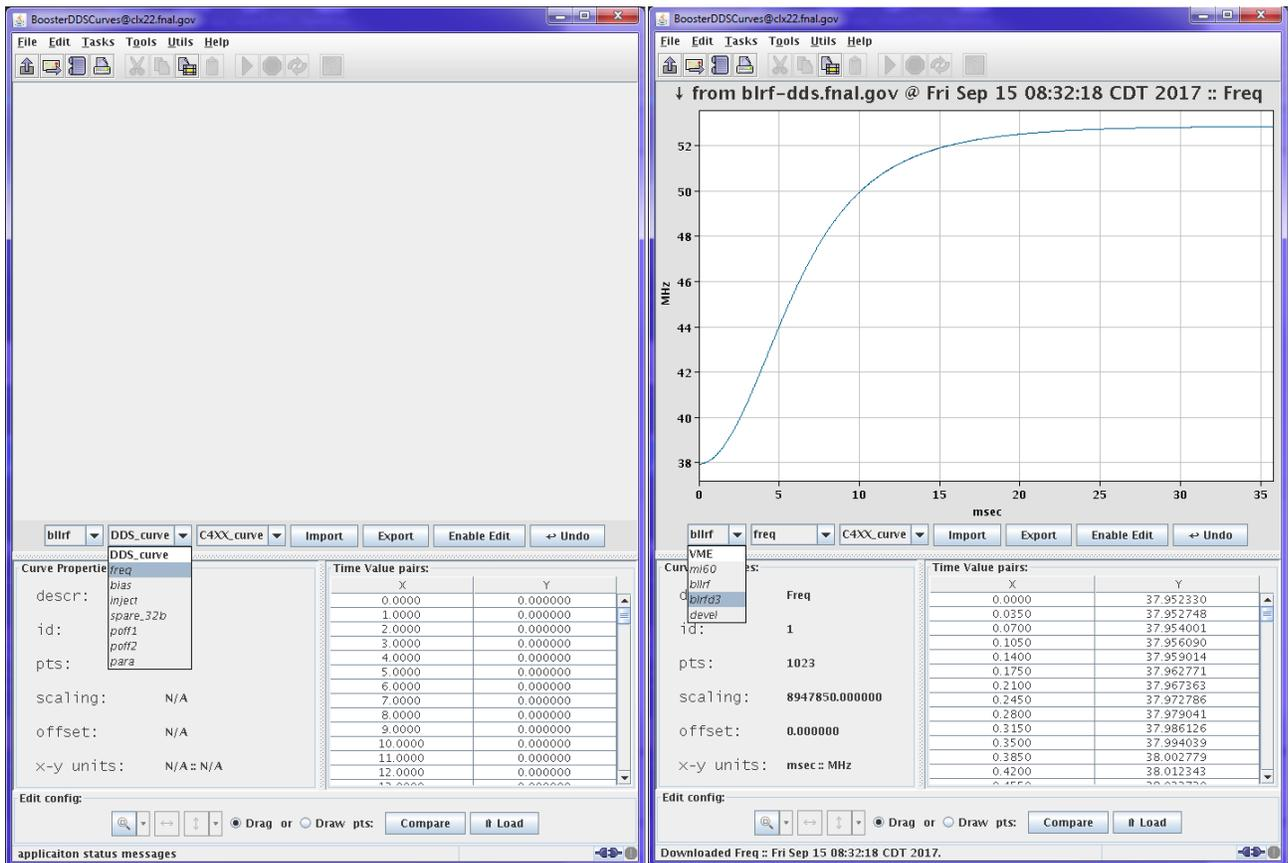

Figure V.3 Curve Editor Application B30.
2. When started, the application is as in the left pane of Figure V.3. The left-most pull-down menu will indicate that we are targeting the VME DDS module in the LLRF Room, running the Booster (so be careful).
4. As shown in the right pane of Figure V.3, select “blrfd3”, then load the Frequency Curve retrieved from “bllr” into “blrfd3” by clicking the button near the bottom of the application window labeled “Load”.